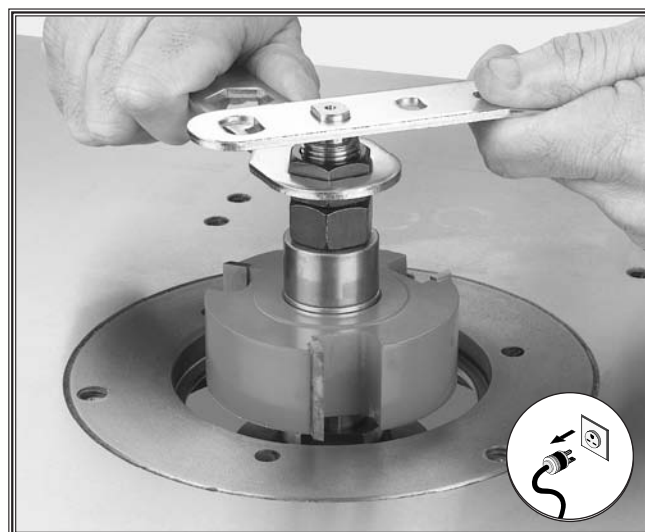

Figure 39. Spindle locknut placement.
6. Tighten down the nut and locknut with an open-end wrench while holding the top of the spindle with the provided spindle wrench as shown in **Figure 39**.